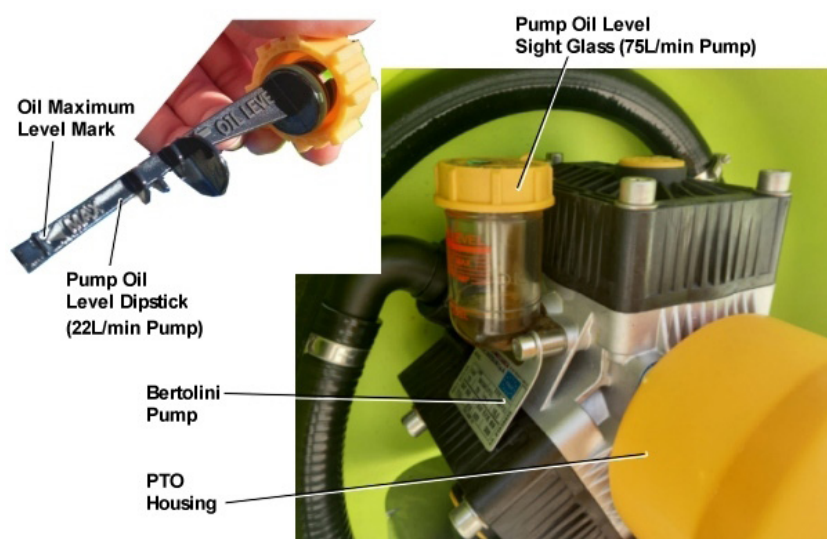

Figure 10– Bertolini Pump – Checking Oil Level – 22 and 75 L/min versions
- Refer to the pump manual (downloaded via link on supplied data sheet), drain and replace the pump oil in accordance with the manufacturer's recommendations (refer to Figure 10).